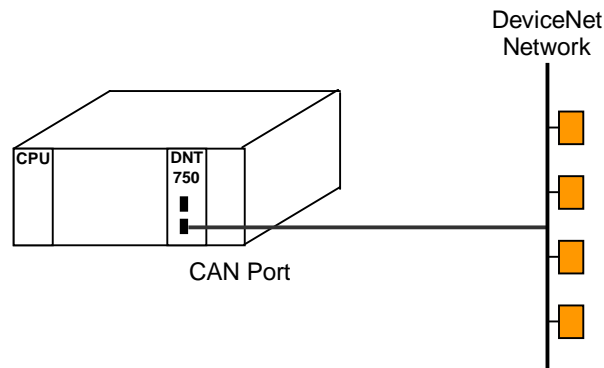

Figure 3.2 – Overview of Setup
3. Configure the following parameters: Refer to Figures 3.2 and 3.3.
4. Configure the following parameters: Refer to Figures 3.2 and 3.4.